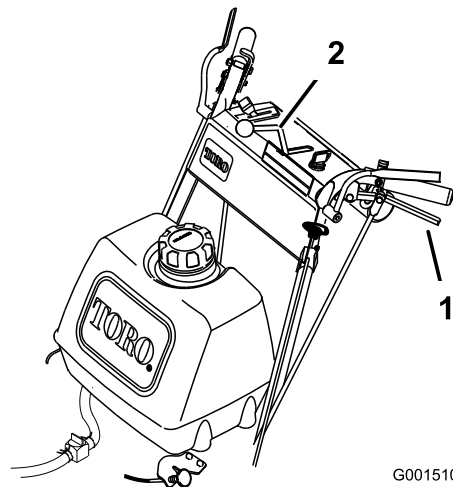

Figure 11
4. Slowly release the drive levers to move forward (Figure 11).
To drive straight, release the drive levers equally (Figure 11).
To turn, squeeze the drive lever on the side of the direction in which you want to turn (Figure 11).
Slowly squeeze the drive levers to the handle to move rearward (Figure 11).